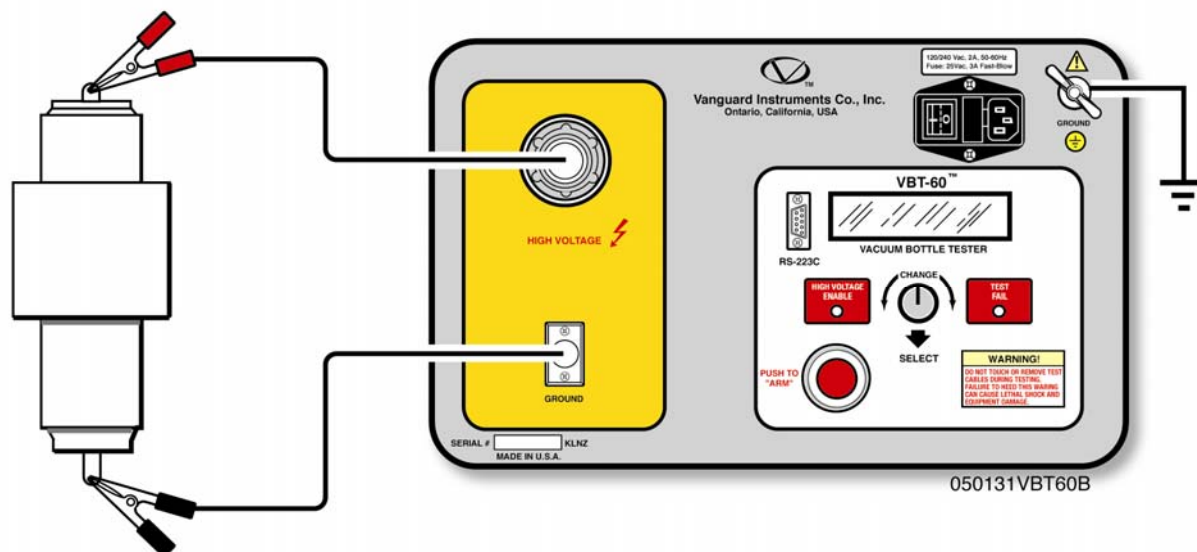
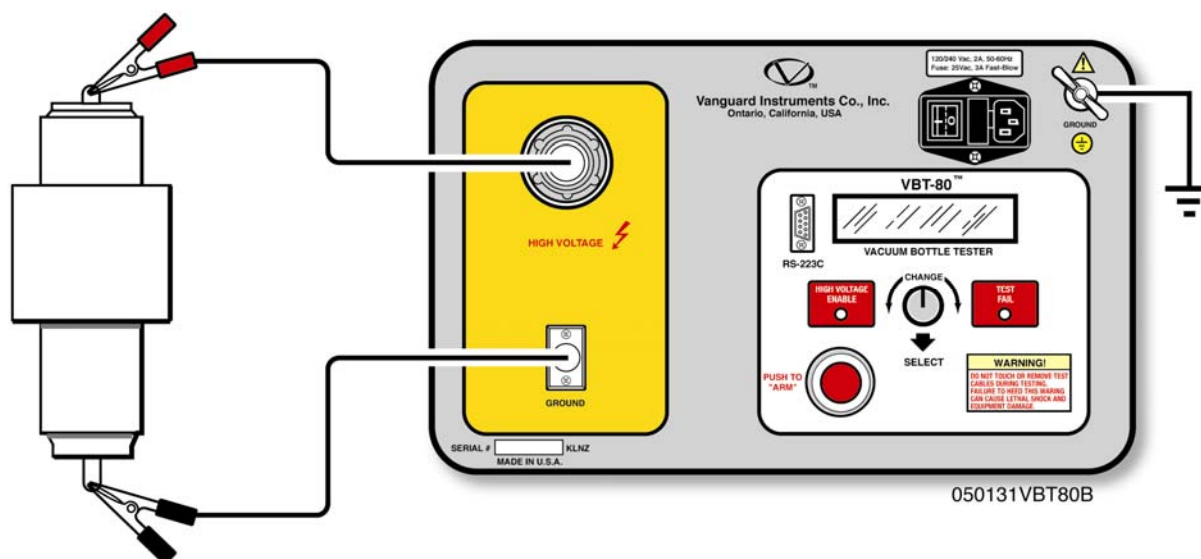

Figure 5 VBT-60 Connection Diagram 1
Figure 6 VBT-80 Connection Diagram 2
The VBT is supplied with one 10-foot “High Voltage” cable and one 10-foot voltage-return cable. Both cables are terminated with alligator clamps to connect to the vacuum bottle being tested. A typical cable connection for the VBT to a Vacuum bottle under test is shown in Figure 5 and Figure 6. To protect the VBT against static discharge in the substation, always connect the unit’s ground stud to the substation ground.
Review Figure 5 and 6 before proceeding with the step-by-step procedures that follow.
- Connect the VBT high-voltage cable end (Red clip) to one side of vacuum bottle (Figures 5 & 6).